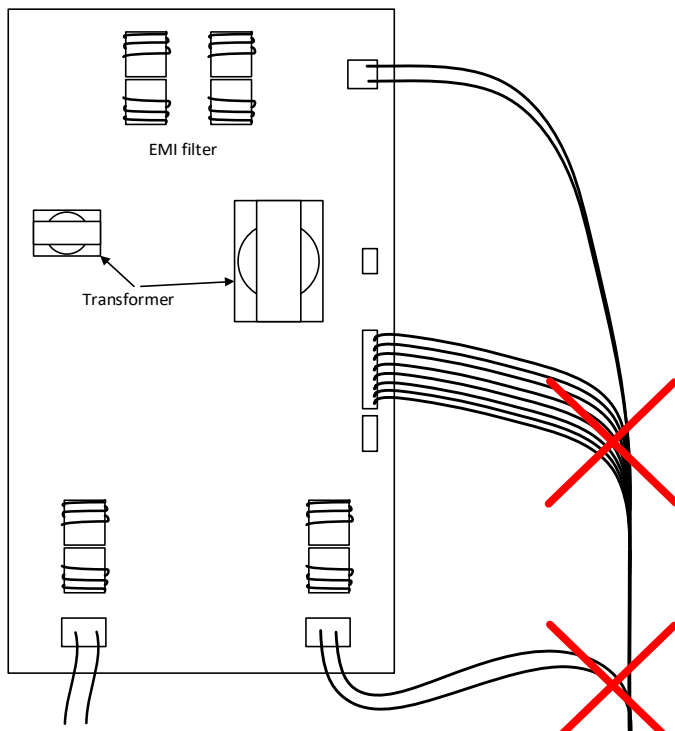

Figure 20 : Wire bundling
- Do not bundle mains wires together with other cables Figure 20.